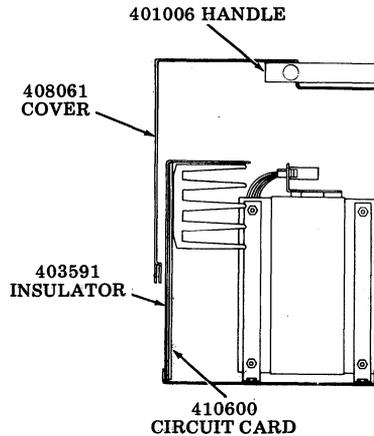

Fig. 7
- (c) Lift and remove the cover from the power supply. Remove the 403591 insulator facing the noncomponent side of the 410600 regulator circuit card (Fig. 7).